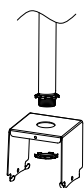

Figure 3
- Step 1. Mount the bracket on 3/4" NPT (Figure 3)